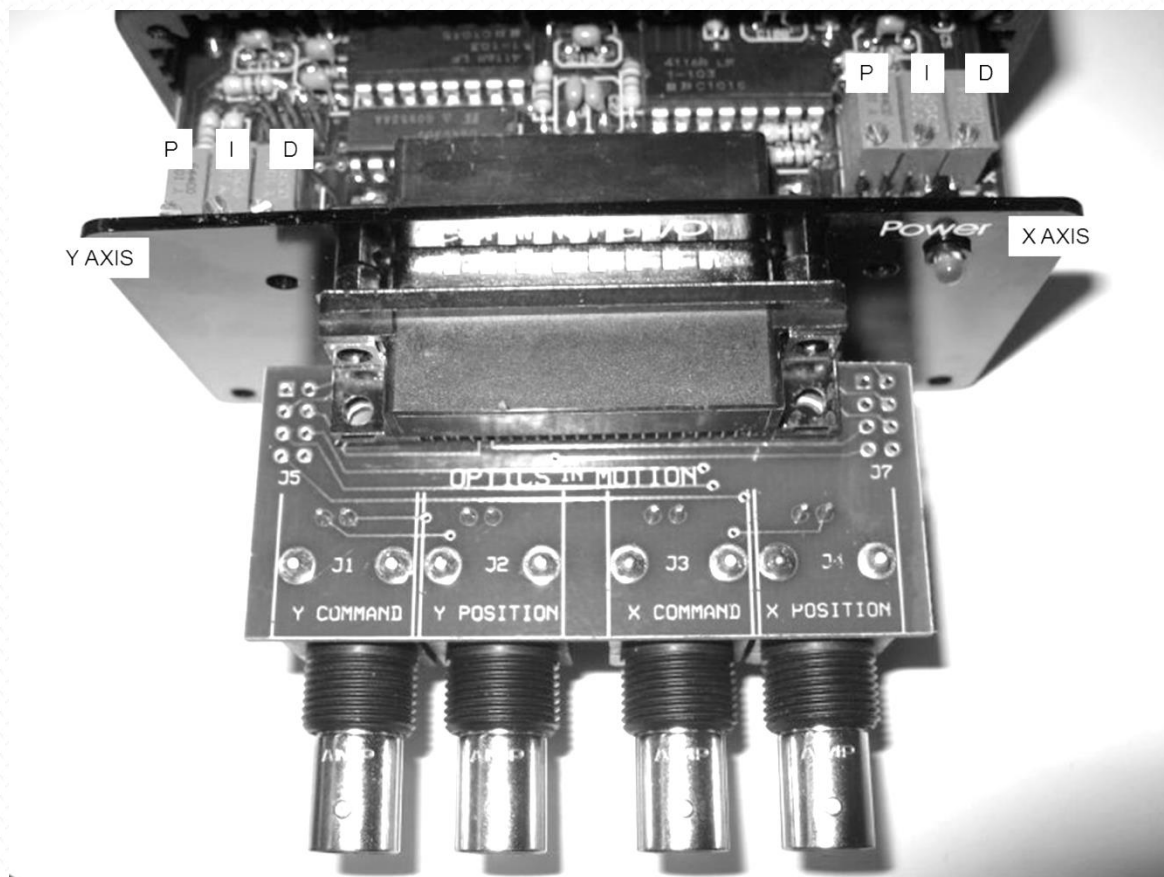

Figure 1: Adjustable PID
The mirror controller electronics are housed in a remote enclosure connected to the FSM via a 6 foot cable. The controller weighs 460 grams. Mirror commands are input to the controller through a 25 socket D sub-miniature connector. The commands are differential signals representing the x and y mirror positions, scaled to the +/- 10 volt range. For example, the X- command can be grounded and the X+ command can go from +10volts to -10volts. The input impedance of the command signals is 10K ohms. Monitor signals are provided for the actual mirror positions, error signals (feedback error between commanded position and actual position). The PID gain of the controller may be set from the controller front panel potentiometers (See fig. 1)
The mirror bandwidth and step response are factory tuned, the data sheets included with the unit show the current settings. The user can optimize the tuning for their specific application by changing these settings. The PID adjustment potentiometers are located inside the controller, to access these pots the front 4 cover screws must be removed. The photo in figure 1 shows the front panel slid forward to allow access to the proportional (P), integral (I), and derivative (D) gain potentiometers (CCW to increase gain on these pots).